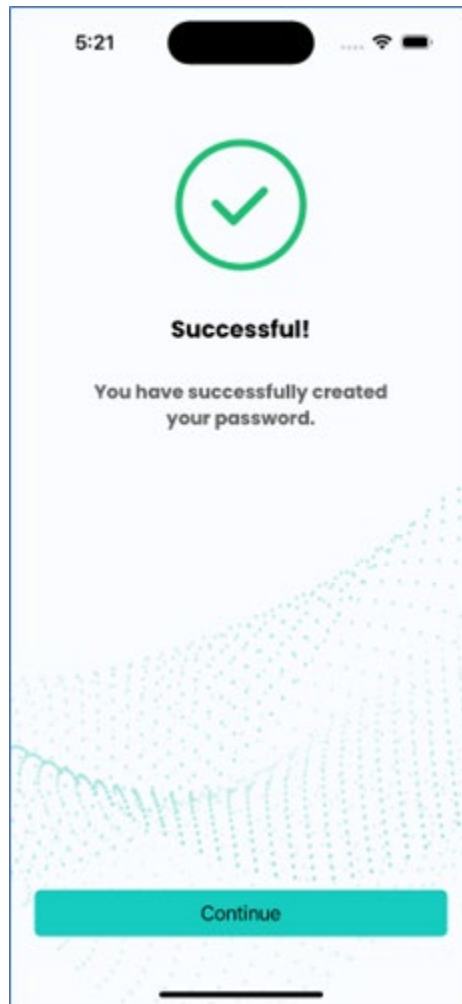
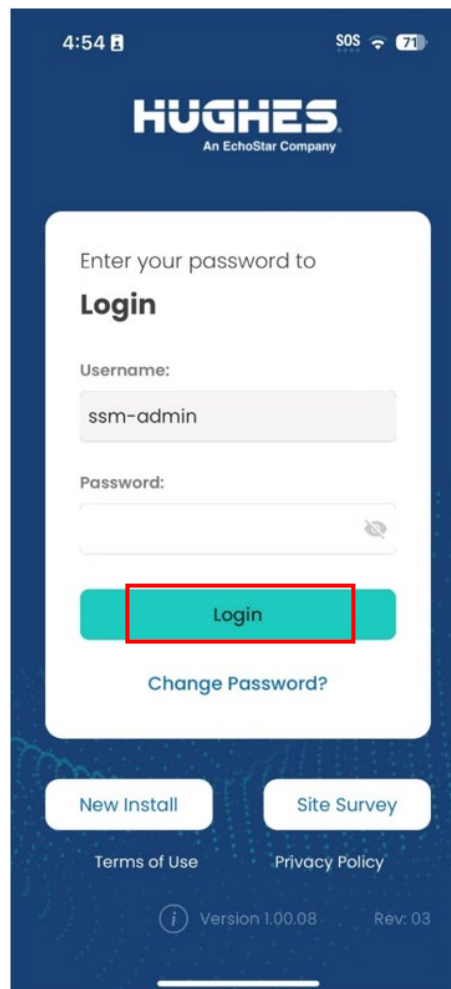

Figure 88: Successful password saved screen
Figure 89: Login for commissioning
5. After the password is saved successfully, click **Continue** (depicted in Figure 88) to move back to the login screen (see Figure 89).
6. On the Login screen (see Figure 89) enter the password and click **Login** to start the commissioning process.